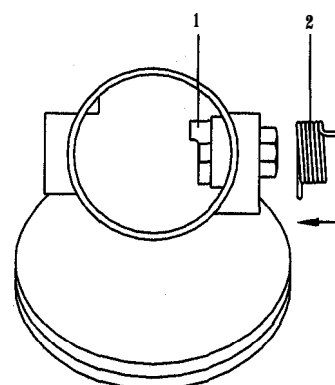

Figure 10
- Ensure PP arm (1) is in position with arm pointing as shown in Figure 10.
- Insert return spring (2) (Figure 10) over PP arm (1) and into housing recess with radial arm of spring correctly located in radial slot in demand regulator body.